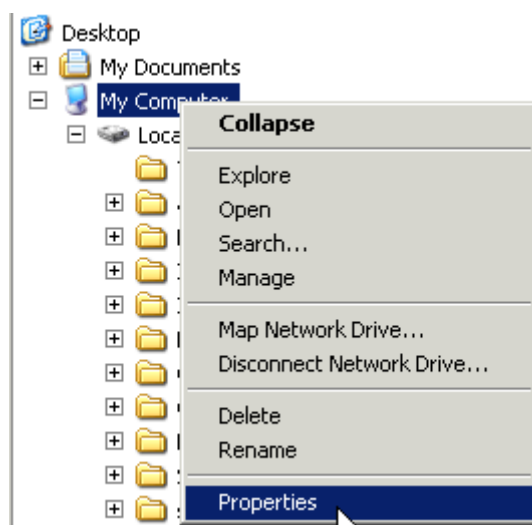

Figure 10: My Computer/Properties
9. On the *Windows Explorer* window, right-click *My Computer* and click *Properties* on the drop-down menu (see Figure 10).